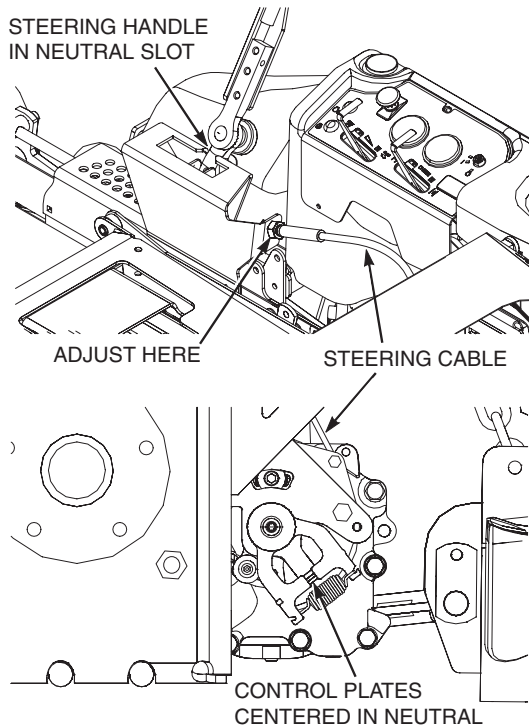

Figure 6-2. Steering Control Cable Adjustment
4. Adjust the RH wheel by loosening the jam nuts on the steering control cable. Turn the jam nut until the control plates on the hydraulic axle are centered in the neutral position. See Figure 6-2.
5. Tighten the jam nuts and repeat for the LH wheel. See Figure 6-2.